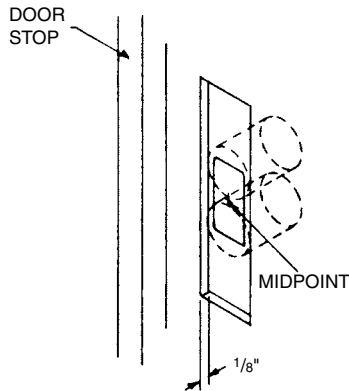

Figure 13.50 Ensure the midpoint is centered in the middle of the strike plate hole. (M.A.G. Engineering and Mfg., Inc.)
4. Drill two 1-inch diameter holes $1\frac{1}{2}$ inches deep, one $\frac{5}{8}$ inch above and one $\frac{5}{8}$ inch below the center mark (Fig. 13.50).